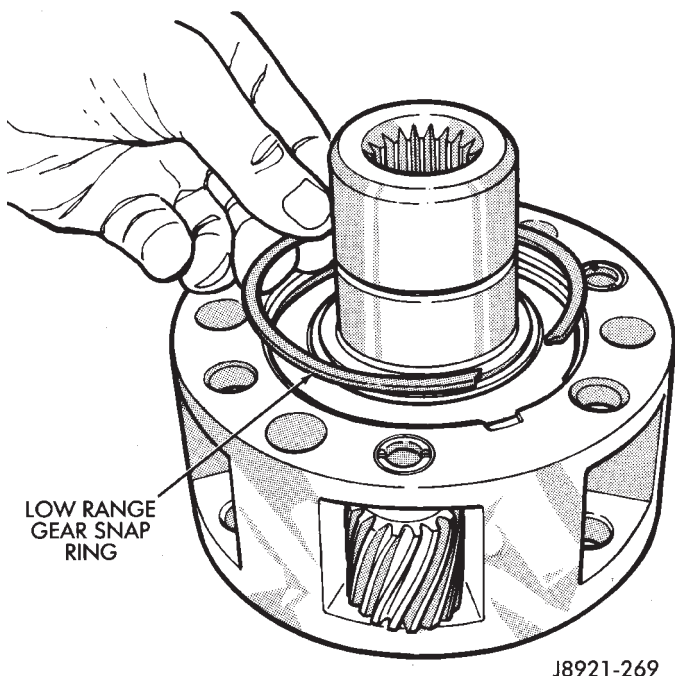

Fig. 39 Low Range Gear Snap Ring Removal/Installation
(5) Remove low range gear snap ring (Fig. 39).